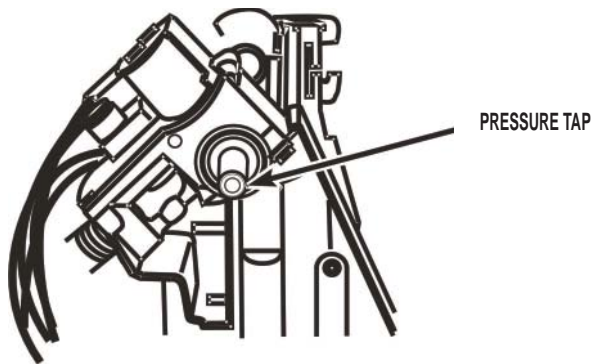

FIGURE 10
2. Insert pressure tap and finger-tighten. See *Figure 10*.